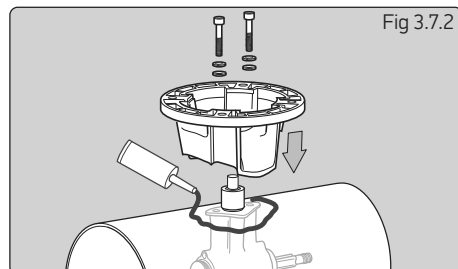

Fig 3.7.2
**NOTE: Poor exterior tunnel surface could cause leakage and noise. Apply sealant to this area as required (Fig 3.7.2).**
- Apply zinc chromate paste or marine grease to location bore and assemble saddle onto hub (SikaFlex® or similar maybe used to seal saddle in place). Apply Blue Loctite® 243 to bolts and hand tighten along with supplied washers (Fig 3.7.2).